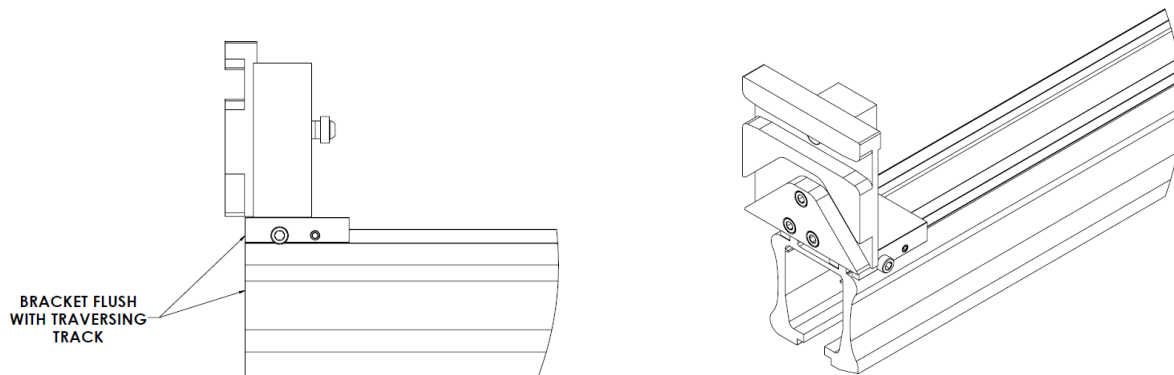

Figure 90: **Traversing Track TGB Mounted to the Traversing Track.**
- b. Mount the traversing track TGB to the traversing track (Figure 90).